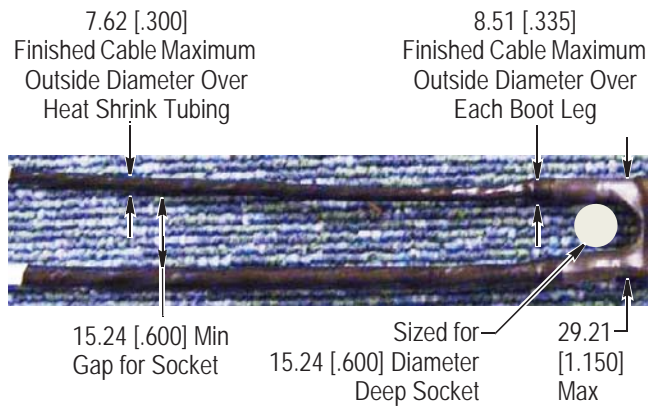

Figure 17
- n. Place a 15.24-mm [.600-in.] diameter dowel pin or rod between the shrink boot legs during cooling to maintain the required socket clearance (refer to Figure 17).
- 14. Check the cable leg separation to make sure it meets the dimensions given in Figure 17.